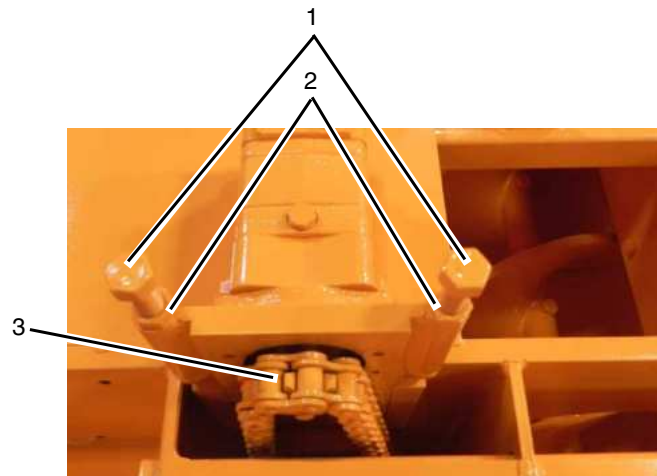

Figure 5-7. Conveyor Drive Chain Bolts
3. Loosen the jam nuts on the chain adjuster. (**Figure 5-7**)